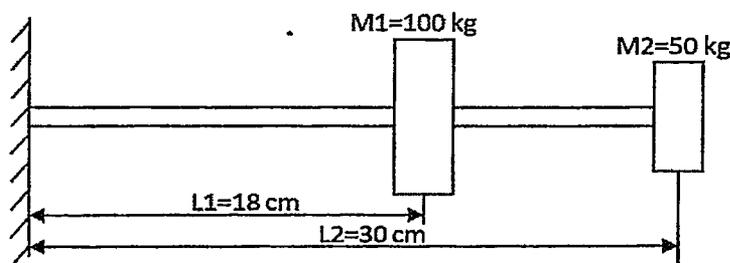

Figure 3
- (b) Find the lower natural frequency of vibration for the system shown in Figure 3 by Rayleigh's method: Assume $E = 1.96 \times 10^{11} \text{ N/m}^2$, $I = 4 \times 10^{-7} \text{ m}^4$. 10